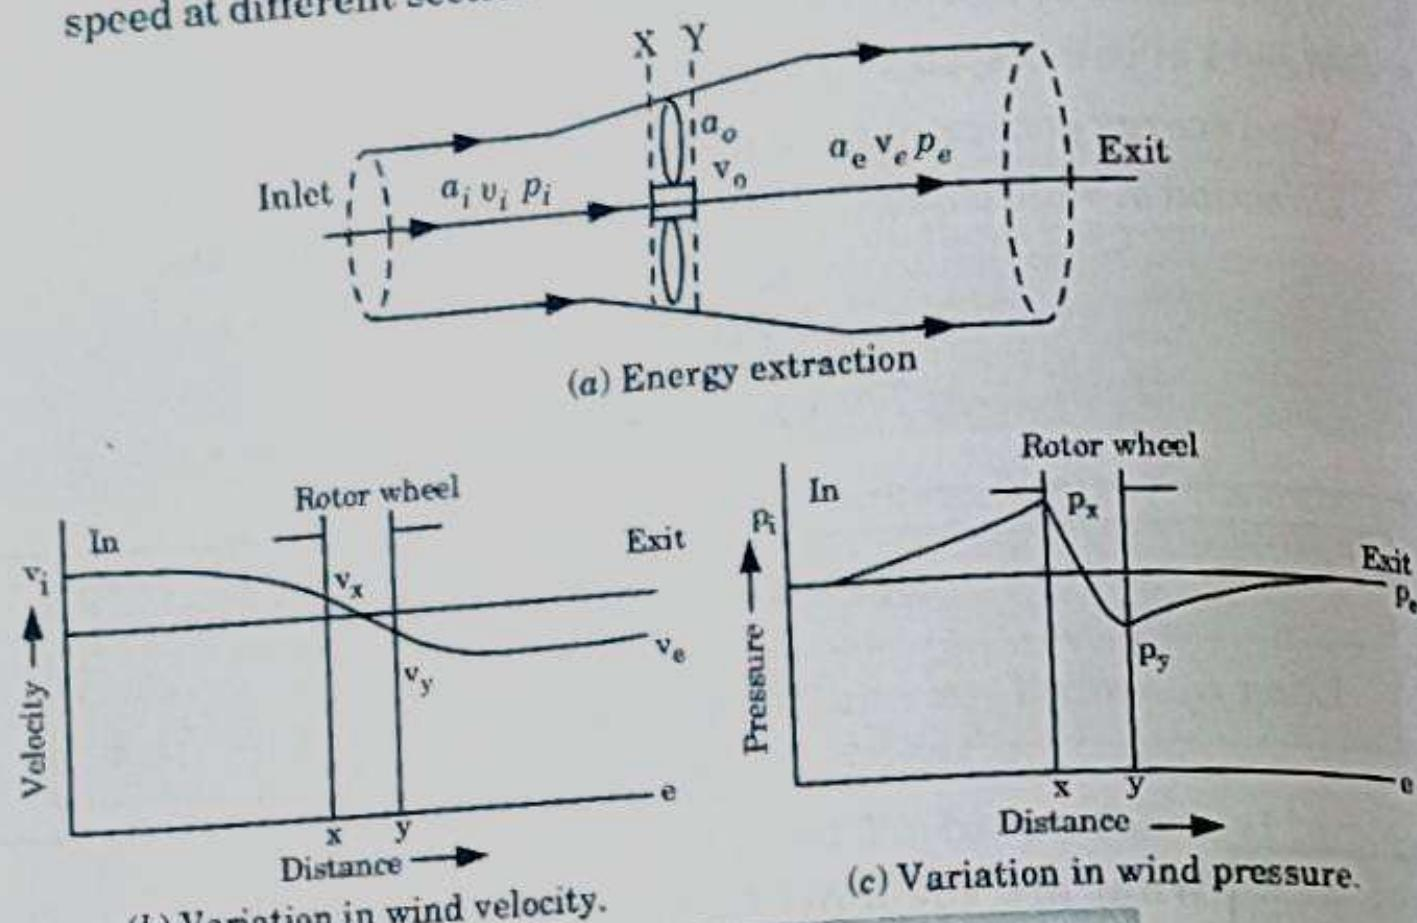

Fig. 4.12.1. Air flow through the rotor.
3. Fig. 4.12.1 shows the air flow diagram on rotor, with variation of wind speed at different sections.